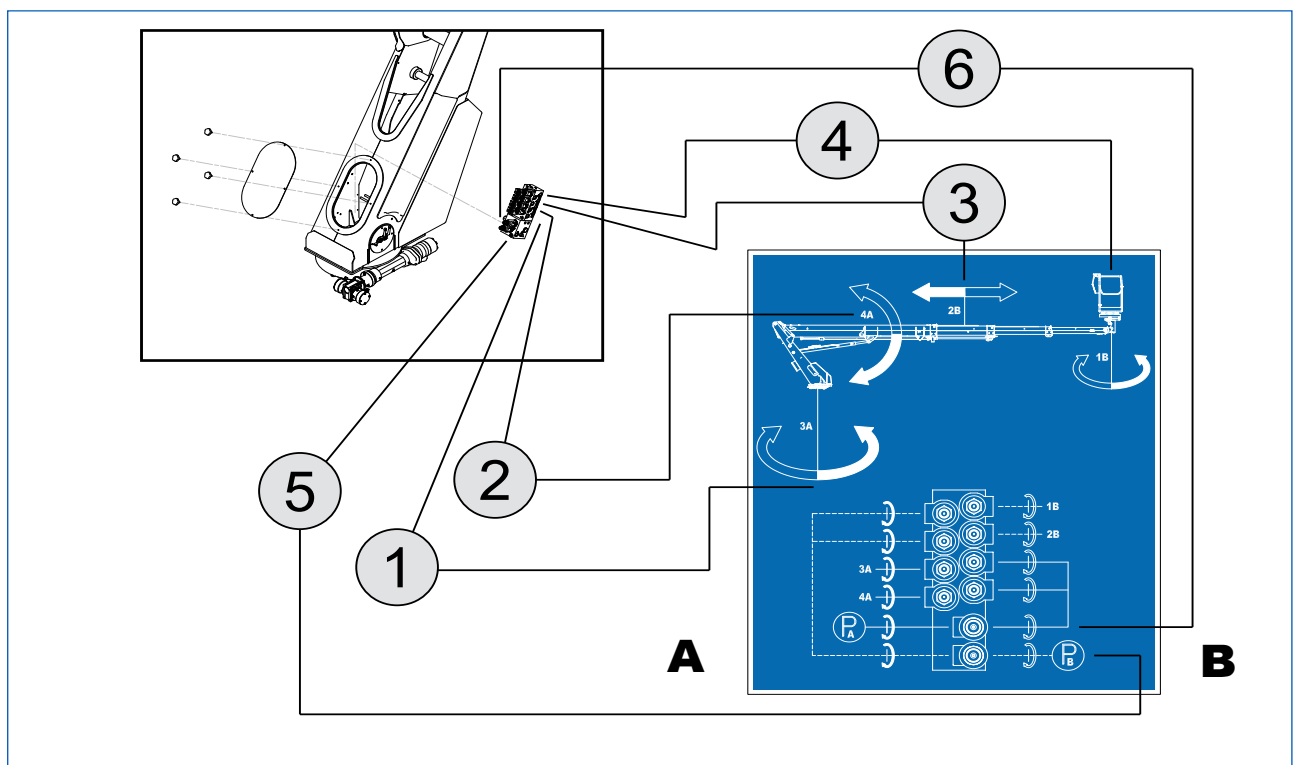

Fig. 7.5
- 5) lower the platform to the ground following the indications shown in the diagram on the label (Fig. 7.5, 4) above the cover:
- A) completely close the proportional valve (Fig. 7.5, 5);
open the valve relative to the telescopic arm, 3A to extend or 3B to retract the extension: set the speed of the desired maneuver by acting on the proportional valve (Fig. 7.5, 5). At the end of the maneuver, close the valve (Fig. 7.5, 3A o 3B) and the valve (Fig. 7.5, 5);
set the speed of the desired maneuver by acting on the proportional valve (Fig. 7.5, 5). At the end of the maneuver, close the valve (Fig. 7.5, 4A o 4B) and the valve (Fig. 7.5, 5);
set the speed of the desired maneuver by acting on the proportional valve (Fig. 7.5, 5). At the end of the maneuver, close the valve (Fig. 7.5, 1A o 1B) and the valve (Fig. 7.5, 5);
set the speed of the desired maneuver by acting on the proportional valve (Fig. 7.5, 5). At the end of the maneuver, close the valve (Fig. 7.5, 2A o 2B) and the valve (Fig. 7.5, 5);
- E) after the maneuvers, unscrew until the proportional valve is knocked (Fig. 7.5, 5);